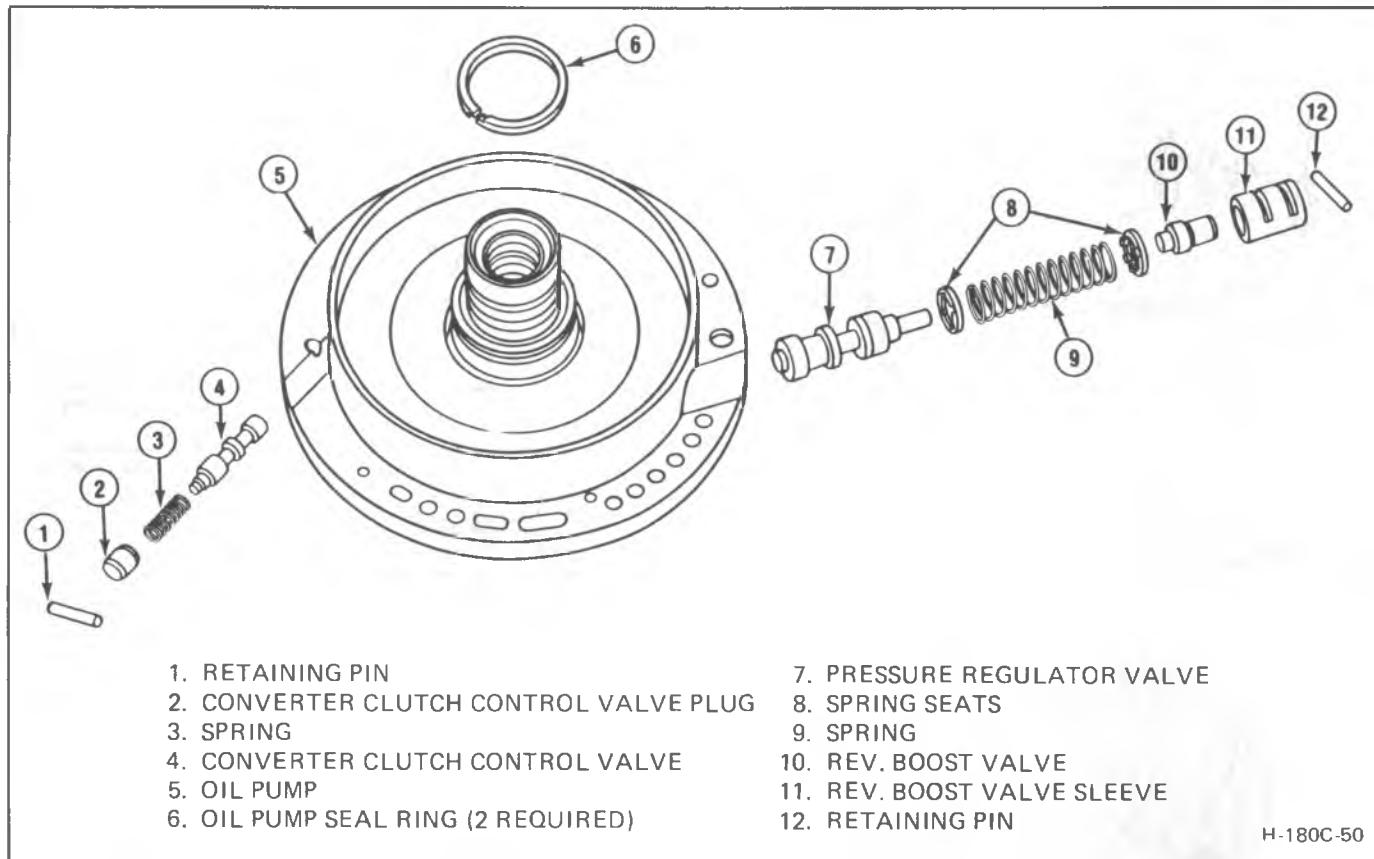

Figure 43 Exploded View - Valves in Oil Pump
**Disassemble (Figure 43)**
**Inspect (Figures 43 and 44)**